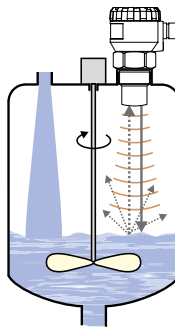

Fig. 9: Moderately stirred surface
- During filling, mixing and other processes, **foam** can arise on the level of the measured liquid. The foam considerably absorbs the radio signal which might cause malfunction of the level meter (Fig. 9). For such cases, it is necessary to set up "SENSITIVITY" mode to "*high*" or contact the manufacturer if need. In case of a thin layer of foam, it is also possible to use the directional horn for improving receipt of the reflected echo.
- Scattering or attenuation of the radio signal can result if the level has been **moderately stirred** or **rippled** (by a mixer, coming liquid etc.). It can result in reduction of the measurement range or unreliable function of the level meter (Fig. 9).